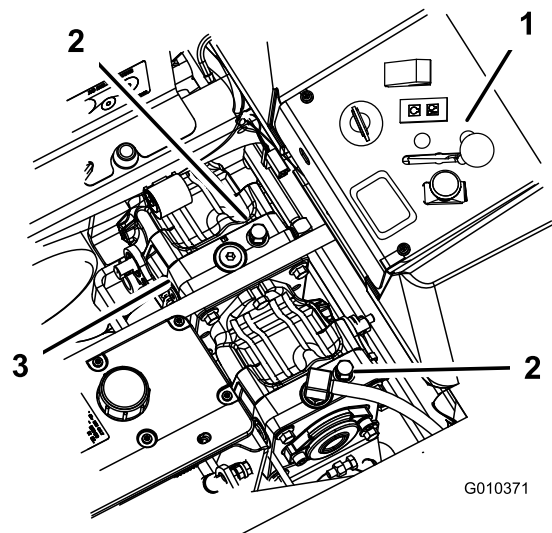

Figure 24
2. Rotate the bypass valves counterclockwise 1 turn. This allows hydraulic fluid to bypass the pump enabling the wheels to turn (Figure 24).
Rotate the bypass valves clockwise 1 turn to operate the machine (Figure 24).